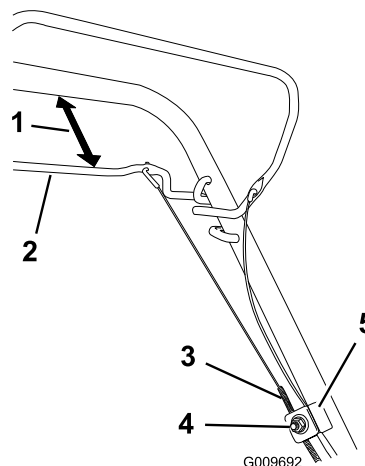

Figure 24
1. Loosen the cable-support nut (Figure 24).
2. Hold the self-propel-drive bar 25 to 38 mm (1 to 1-1/2 inches) from the handle (Figure 24).
3. Pull down the cable jacket (toward the machine) until there is no slack in the cable (Figure 24).